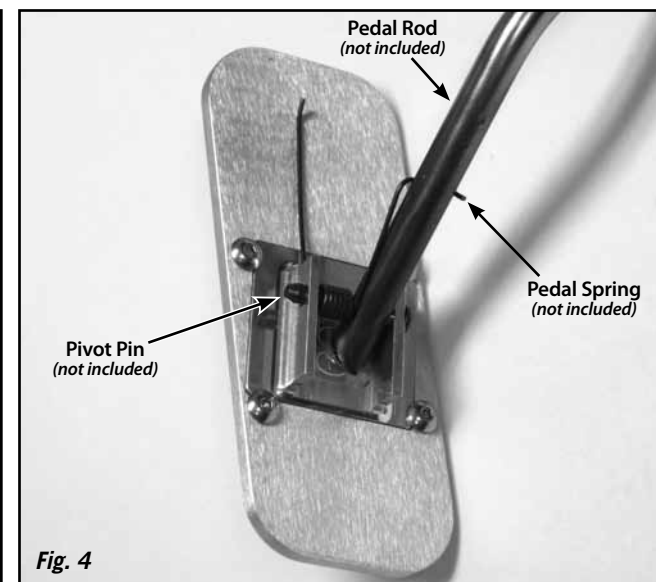

Fig. 4
Step 3: Position the throttle pedal pad on the pedal rod. Insert the original pivot pin (not included) through the left side of the throttle pedal back, and then through the pedal rod. Position the original throttle pedal spring (not included) into the throttle pedal back. Push the pivot pin through the throttle pedal spring and then through the right side of the throttle pedal back. **Fig. 4**